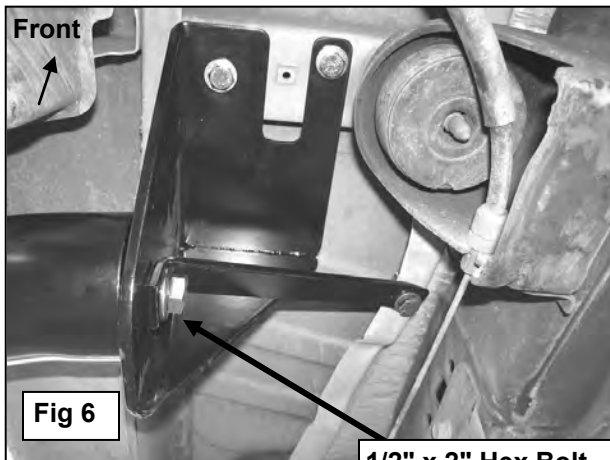

Fig 6
6. Hold the passenger Sidebar up to the front Bracket. Insert (1) 1/2" x 2" Hex Bolt, (1) 1/2" Lock Washer, and (1) 1/2" Flat Washer through the Support Bracket, the Frame Bracket and into the Sidebar, **(Figure 6)**. Do not tighten at this time. **NOTE:** To correctly identify the front of the Sidebar, note that the front mounting leg on the Sidebar is 3/4" longer than the rear mounting leg.